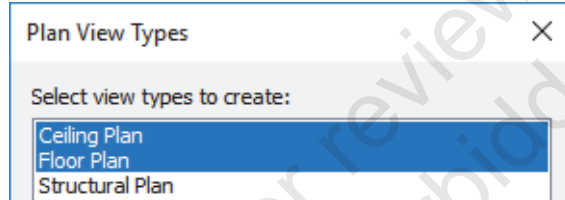

Figure 1–23
7. Add three more levels above **Floor 2** with a distance of **4000** between each level, and two levels below **Floor 1** with a distance of **3500** between them. Rename them as shown in Figure 1–24. Click **Yes** to rename the corresponding views.